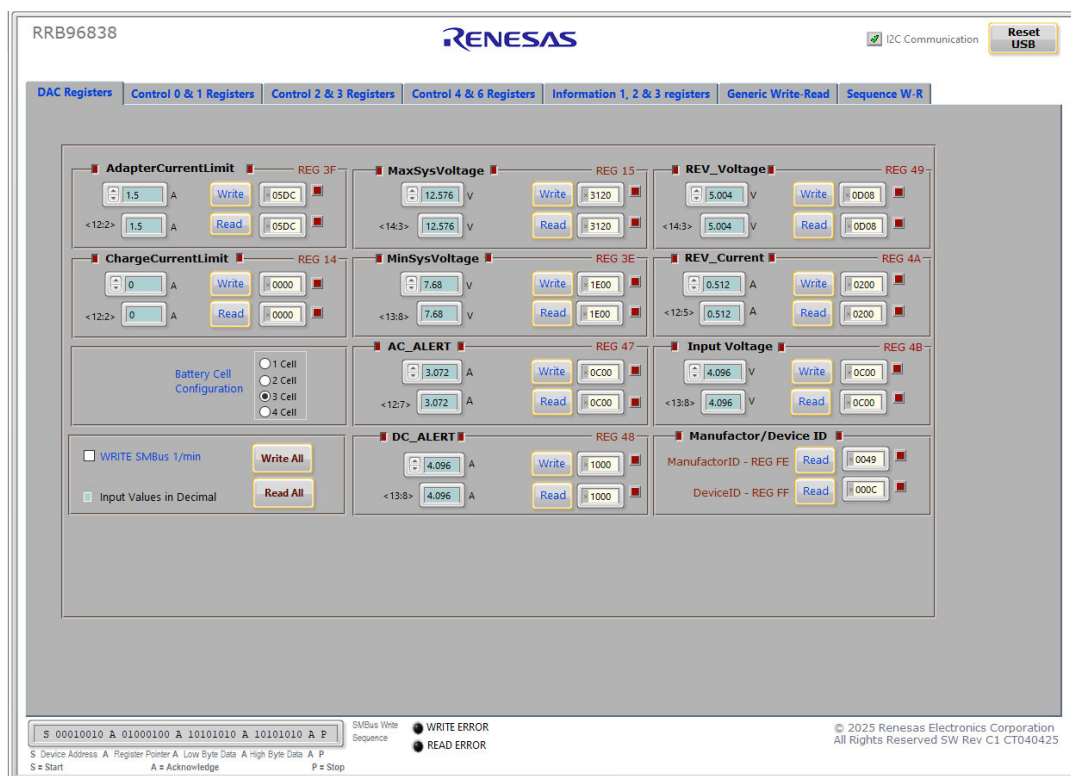

Figure 3. GUI Snapshot
The number of battery cell and adapter current limit default values can be configured with a standard 1% 0603 resistor (R_{23}) from the PROG pin to GND. The PROG Pin Programming Options table in the *RRB96838 Datasheet* shows the programming options. After the default number of cells in series is set, the default values for MaxSystemVoltage and MinSystemVoltage are set accordingly. These values can also be changed through the SMBus control registers in the Renesas GUI, shown in Figure 3.
4. Turn on the power supply. Turn on the battery emulator and open the RRB96838 GUI (shown in Figure 3).
4. Turn on the power supply and open the RRB96838 GUI (shown in Figure 3).